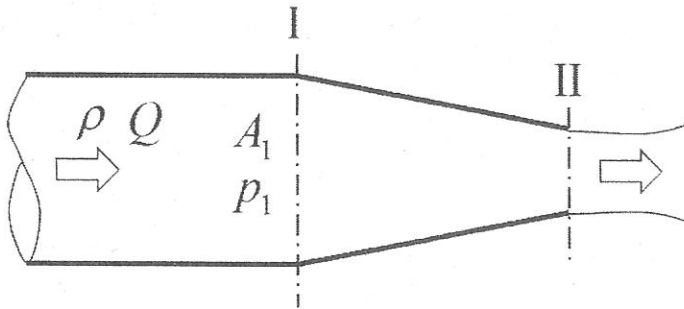

Figure 1
- (1) Consider a steady flow in a cylindrical pipe as illustrated in Figure 1. The pipe is situated horizontally and filled with fluid of density ρ . The flow is discharged at the exit (Section II) to form a jet with discharge Q . The diameter of the pipe changes gently from Section I to Section II. The cross sectional area at Section II is one fourth of that at Section I.